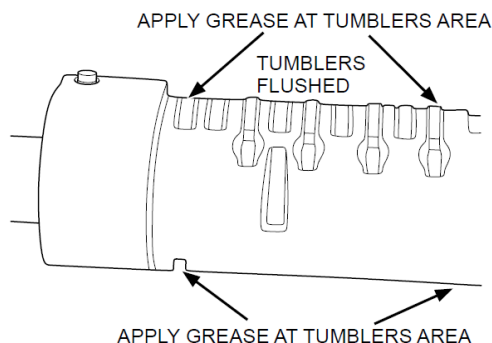
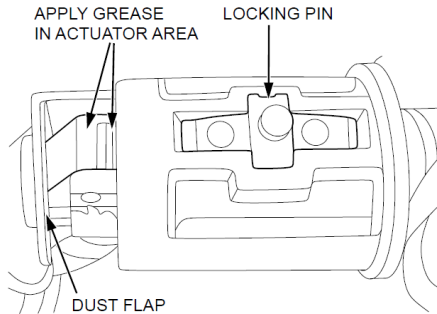

FIGURE 5
FIGURE 7
6. Insert the key into the keyhole and verify that all installed tumblers are flush with the cylinder exterior surface (refer to figure 5). Do not pull the key out. If you do, the tumblers will fall out as they are not snap in or self retaining.
8. Apply grease to the actuator (refer to figure 7) and to the outer surface of the cylinder with the key still inserted, ensuring that the areas above and in between the tumblers are coated (refer to figure 5)